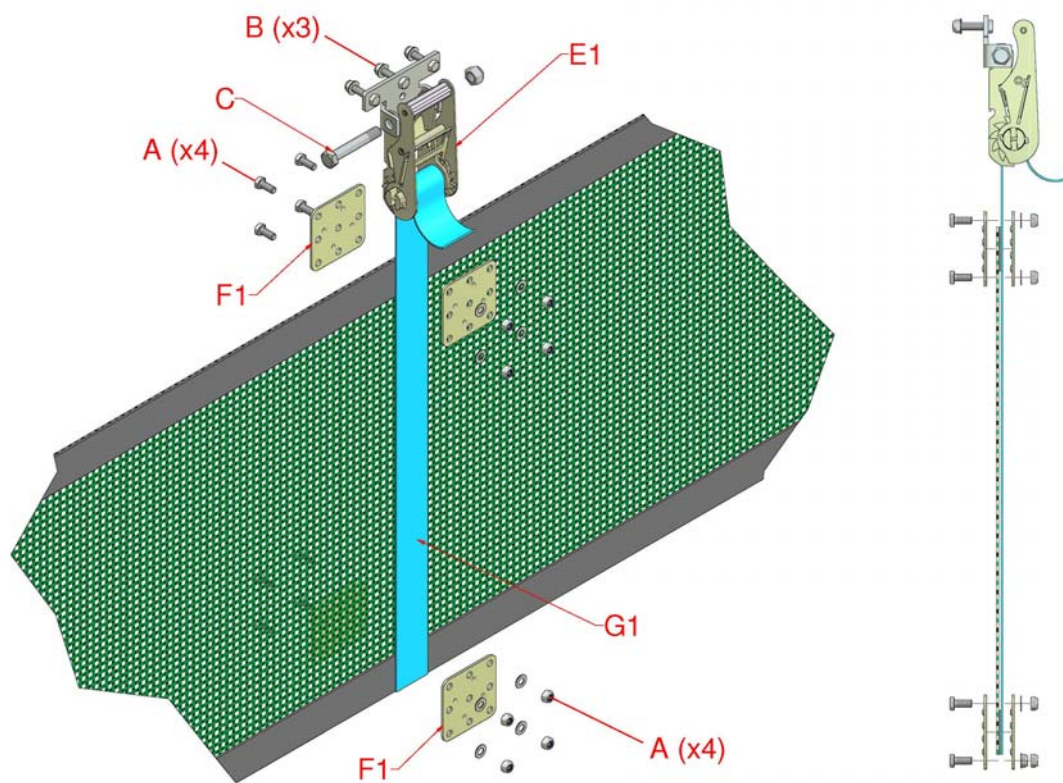

Figure 9, Top Support
11. Decide on the position of the top support, to minimise screen sag we recommend it is positioned to within 1m of the centre. Assemble the ratchet bracket assembly (E1) with the M12 x 85mm bolt (C) provided. Figure 9 depicts the standard fitting of the bracket, but it can be reversed if mounting space is limited. Fit assembly to the building with the three M8x40 fixings (B) supplied, do not use fastenings smaller than M8.
12. Fix webbing to the top two webbing straps on the screen with clamp plates (F1) as shown in Figure 9. The clamp plates bolt either side of the webbing, pierce holes through the fabric for the bolts and not through the webbing. Feed webbing (G1) through ratchet and ensuring at least 150mm of webbing is around the ratchet barrel operate the handle to lift the screen until it is level.